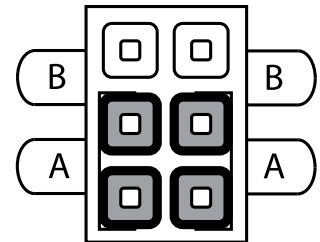

Figure 6: Class A Jumper Setting
- Set the jumper assigned to the loop to the “A” position, as shown in Figure 6.